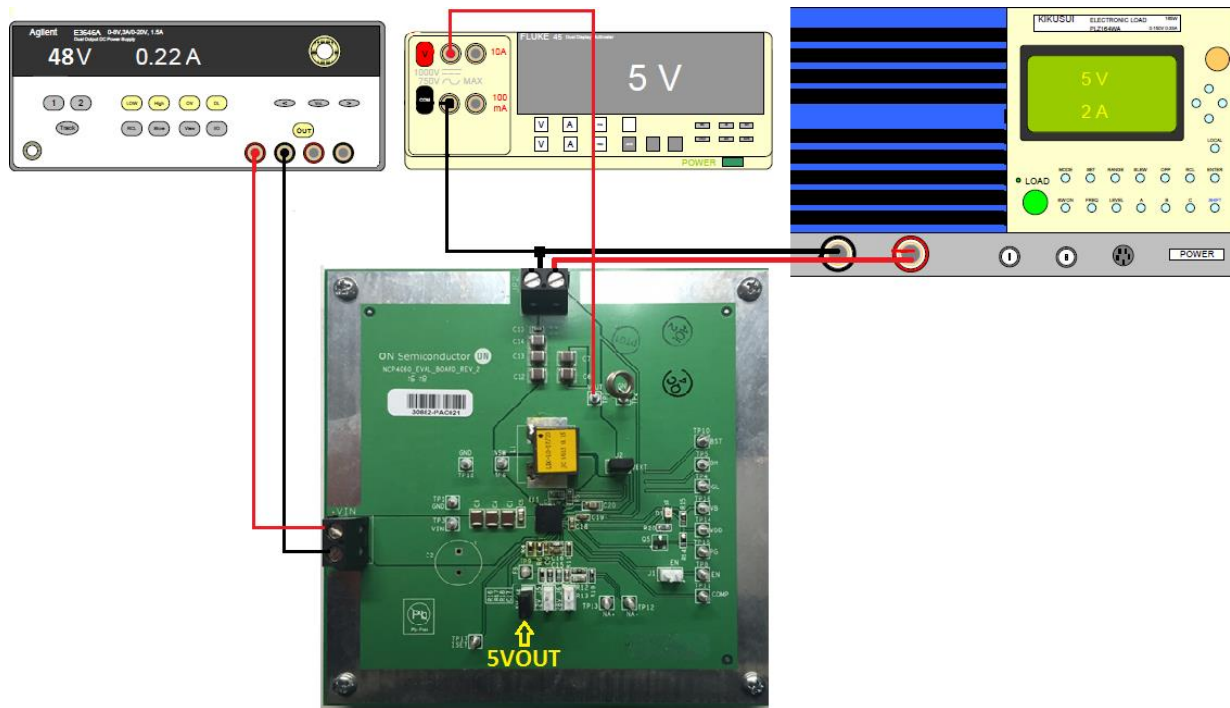

Figure 1: Test Setup
1. Connect the test setup shown in figure 1
4. Check Output Voltage by measuring  $V_{out}$  As shown in Figure 1